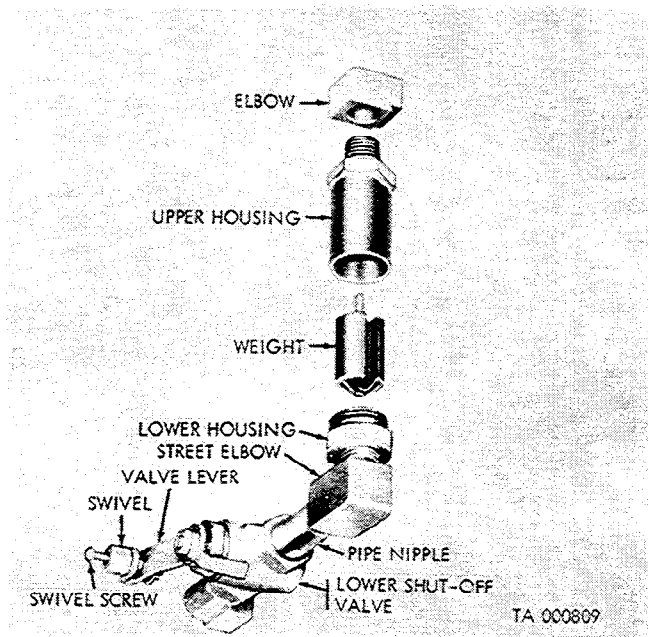

Figure 2-92. Metering valve and related parts.
g. Disassemble Crankcase Vent Line and Related Parts. Remove the crankcase vent line (R) from the connector (W) and remove the connector from the fitting.
- (1) Remove the elbow from the shutoff valve (fig. 2-92) or union. Remove the shutoff valve or union, and remove the pipe nipple from the street elbow. Remove the street elbow from the metering valve lower housing. Remove the elbow from the metering valve upper housing.
(1) Install a tube connector (W) in the crankcase fitting (V).
(2) Install the crankcase vent line in the connector.
k. Assemble Metering Valve and Related Parts (fig. 2-92).
(1) With the metering valve upper housing in an upright position, install the control support clamp (on vehicles so equipped) with the offset toward the left. Install the weight (shaft end first) in the upper housing. Install the lower housing and tighten.
(2) Install metering valve (upper housing) in the elbow and tighten.